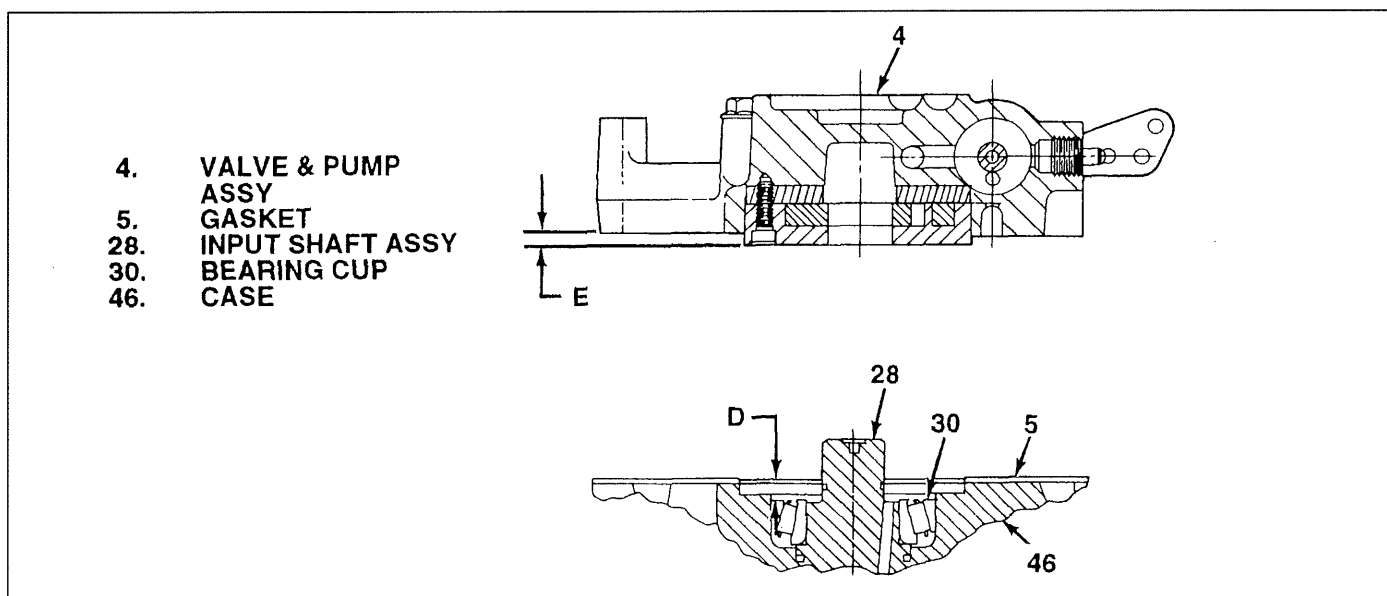

Figure 5-23: Determining Input Shaft Bearing Shim Thickness
2. With gasket (5) in position on pump mounting face of case (46), determine thickness of shim(s) (6) to be used at input shaft bearing as follows:
a. Push down firmly on input shaft assembly (28) and bearing cup (30) (see figure 5-23) to make sure parts are seated.
b. Measure and record dimension D as shown in figure 5-23 [from top face of gasket (5) to top face of bearing cup (30)].
c. On valve and pump assembly (4), measure and record Dimension E as shown in figure 5-23.
d. Calculate T_2 , the thickness of shim(s) (6) required at input shaft bearing, as follows: